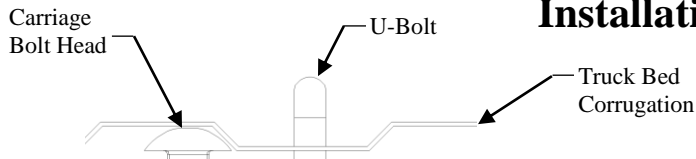

Figure 6
- Install under bed supports with (4) vertical 5/8" bolts in rails.
- Using the U-Bolt slots as a guide, drill four 5/8" holes in the bed. These holes must be in a lower bed corrugations to limit the amount of U-bolt showing above the bed (see figure 6).